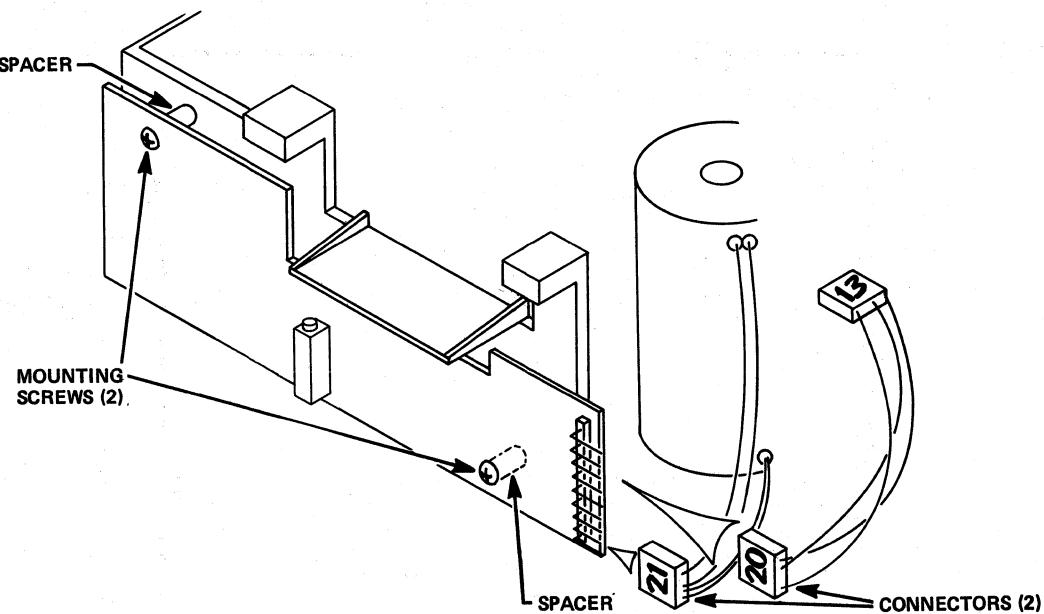

Figure 5-3
- 5.3.1** Detach connectors P20 and P21 from the Servo PCBA (see Figure 5-3), located at the back of the disk drive.
- 5.3.8 Plug Connectors P20 and P21 into their proper slots on the Servo PCBA — P20 on the top and P21 on the bottom — see Figure 5-3.